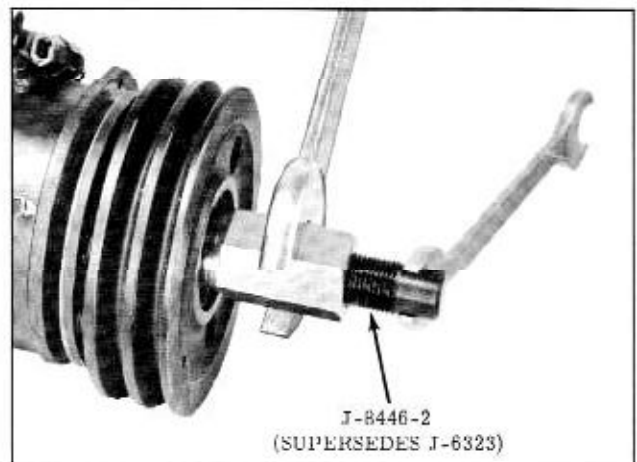

Fig. 14-26 Installing Pulley
5. Start pulley on compressor shaft, then place Spacer J-6323-3 over the tool bolt with the chamfered side away from the tool if using Tool J-6323. Thread bolt of Tool J-6323 or J-8446 without spacer, onto compressor shaft. While holding the tool bolt, turn the tool nut counterclockwise to press the pulley onto the compressor shaft. (Fig. 14-26) Remove tool(s).
8. Install the pulley. (Fig. 14-26)